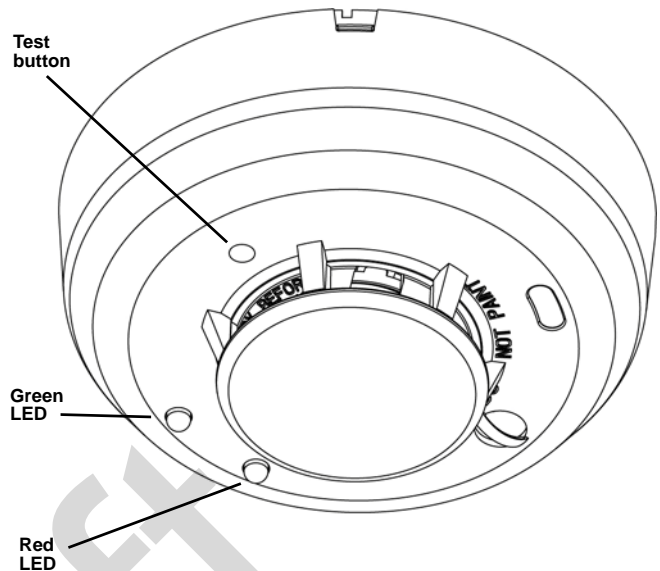

Figure 1 Wireless smoke detector external components
5. When prompted to register the device, use a small screwdriver or Allen wrench with a diameter of less than 0.18" to press the recessed test button (See Figure 1).